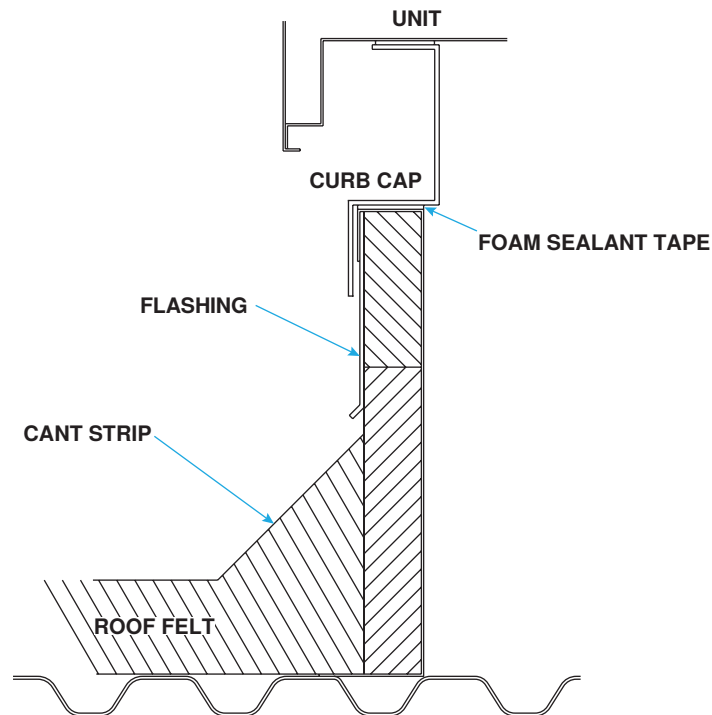

Figure 4. Typical Roof Curb Detail
7. Install field-supplied flashing, cant strip, and roof felt as necessary as shown in Figure 4. Ensure that flashing is under curb cap lip.
8. Before unit is installed on roof curb, foam sealant tape (see Figure 4) **MUST BE** applied to top surface of curb—making good butt joints at corners.